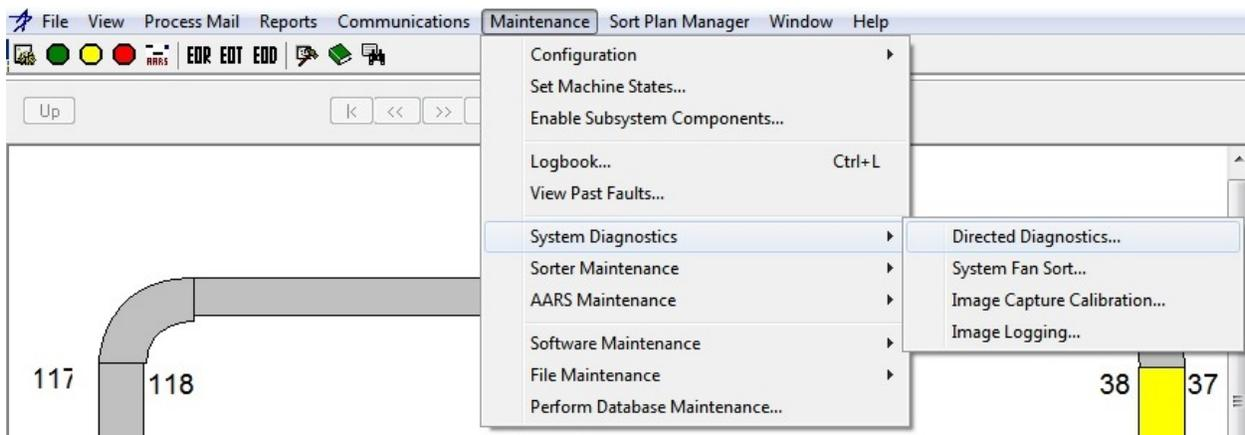

Figure 2-1. Directed Diagnostic Selection Menu
5. Select **Maintenance**, **System Diagnostics**, and then **Directed Diagnostics** from the top menu of the SMS GUI (Figure 2-1).